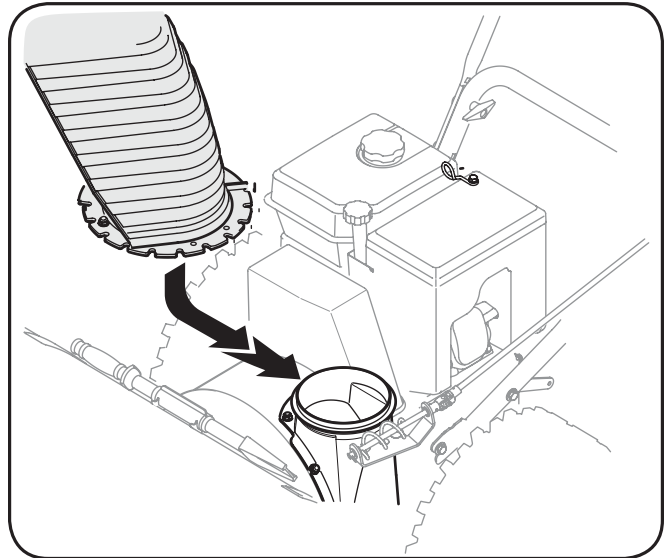

Fig. 3-6
- Place the chute assembly onto chute base, making sure the flange keepers are beneath lip of chute base. The notches should engage with the spiral end of the chute crank. See Figure 3-6.